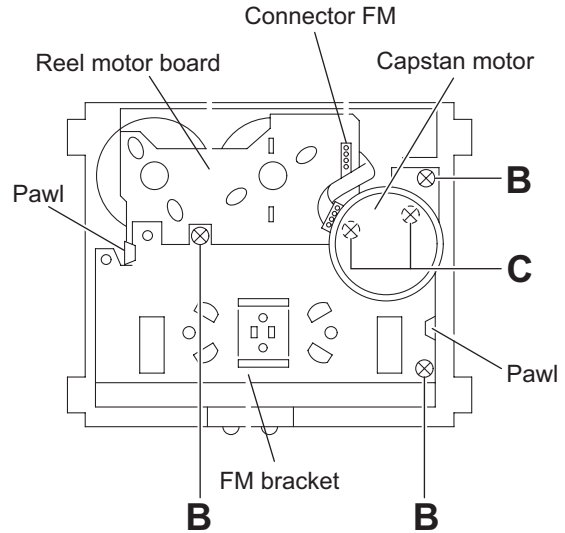

Fig.13
- (1) Remove soldering of connector FM on reel motor board. (Fig.13)
- (2) Remove three screws **B** and disengage two pawls, and then the FM bracket and the capstan belt can be removed. (Fig.13 and 14)
- (3) Remove two screws **C** retaining the capstan motor from the FM bracket. (Fig.13)